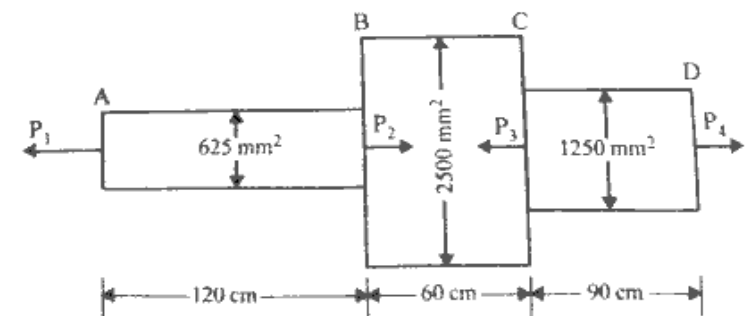

Figure 1
b) A member ABCD is subjected to point loads P_1, P_2, P_3, P_4 as shown in figure 1. calculate the force P_2 necessary for equilibrium, If $P_1 = 45$ kN, $P_3 = 450$ kN and $P_4 = 139$ kN.